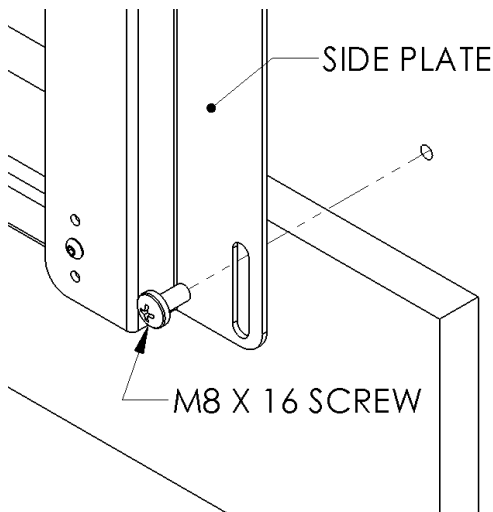
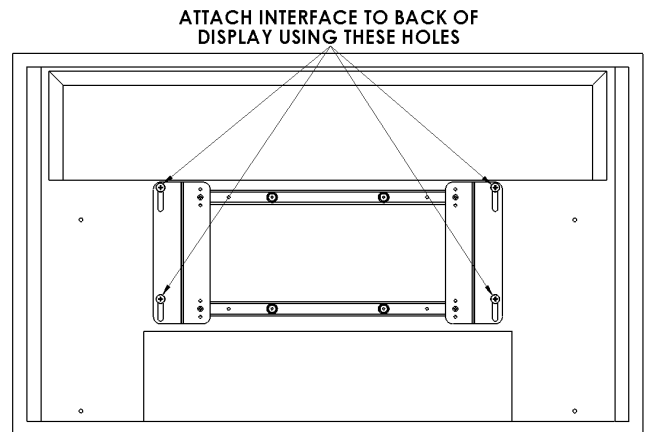

Figure 6
Figure 7
3. **Bracket Installation:** Place nylon spacers over mounting holes of screen and attach brackets to back of display using the M8 screws (see Figure 6 & Figure 7). Do not over tighten screws.